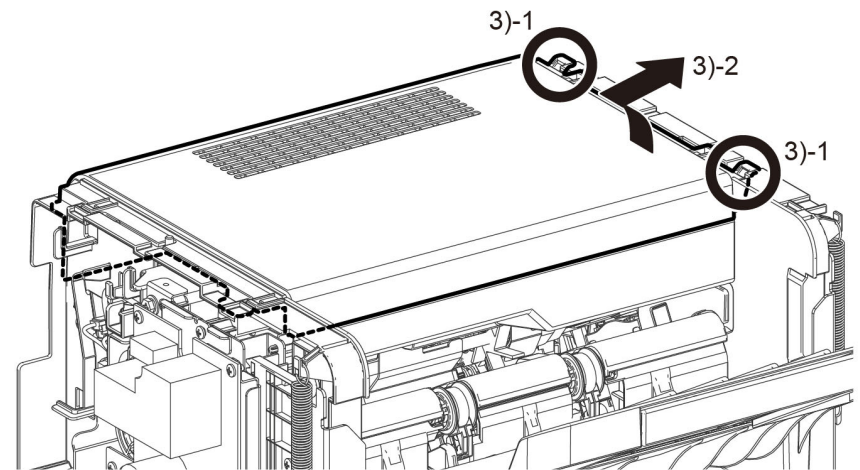

Figure 1 Top cover removal
3. Perform the items that follow, Figure 1: